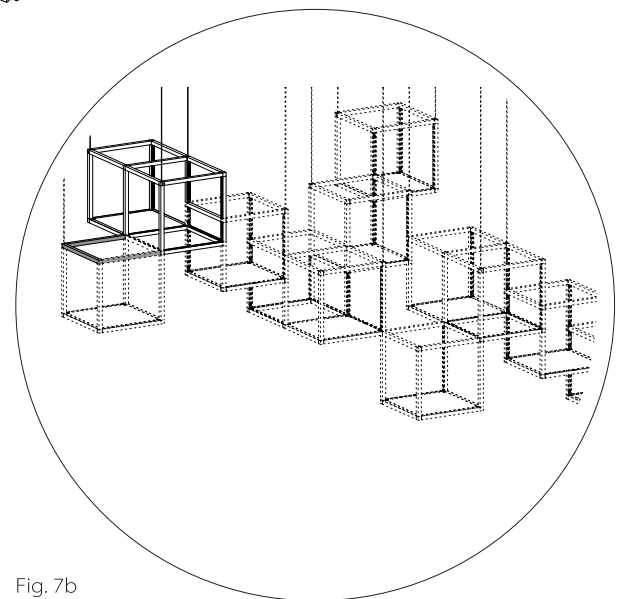

Fig. 7b
- 16c. Section as part of whole assembly shown in Fig. 7b.